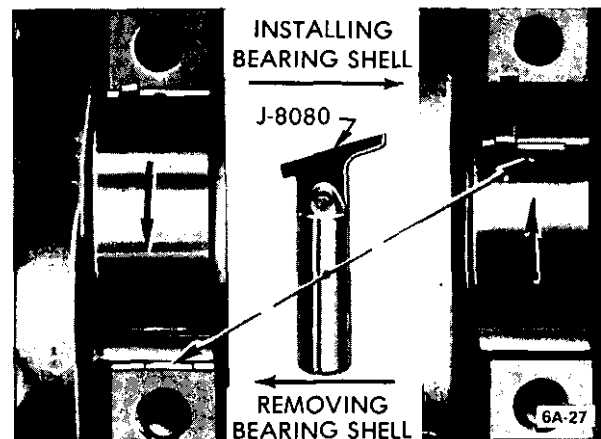

Figure 6A-27 Removing and Installing Crankshaft Bearing Upper Shell
7. Remove upper bearing shell by inserting Bearing Shell Remover and Installer J-8080 in oil hole in crankshaft, then slowly turning crankshaft so that the tool rotates the shell out of place by pushing against the end without the tang. See Figure 6A-27.